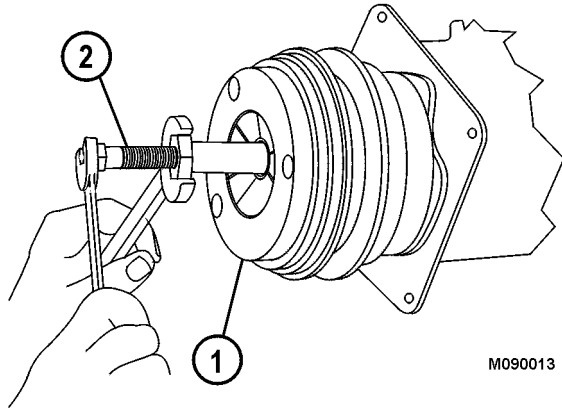

FIGURE 9-12.
4. Thread clutch plate and hub assembly remover (2, Figure 9-12) into the hub of clutch assembly (1). Hold the body of the remover with a wrench and tighten the center screw to pull the clutch plate and hub assembly from the compressor.